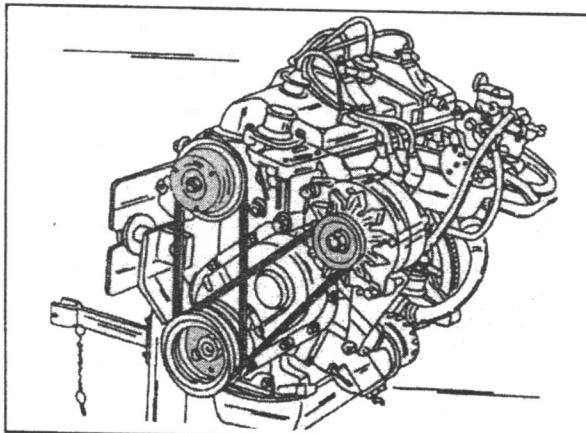

Fig. 1.82. — The water pump drive belt is fitted vertically between the crankshaft pulley and the water pump. The other belt drives the alternator.
The water pump is driven by a separate drive belt from the crankshaft pulley. The belt has no tensioning device, i.e. it must be "forced" off the pulleys and fitted in a similar manner. The layout of the belt is shown in Fig. 1.82.
- Place the water pump drive belt behind the crankshaft pulley and engage it with the water pump pulley. Now fit the belt at the bottom over the crankshaft pulley in a similar manner as shown in Fig. 1.82, again rotating the crankshaft pulley nut with a 35 mm socket and a ratchet until the belt jumps into the groove.
The layout of the alternator belt can be seen in Fig. 1.82. The adjusting point for the belt is located on the alternator. The workshop will use a special gauge to tension the belt, which is placed against the belt. Without this tension checking gauge proceed as follows: